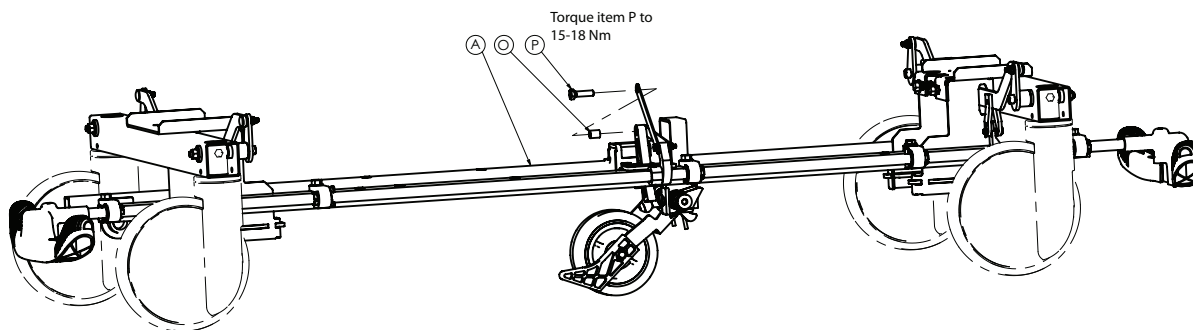

Figure 8 – Brake rod replacement
4. Use a 13 mm wrench, 13 mm socket wrench, and a 3/8" drive ratchet to remove and save the hex head screw (P), hex nut, and cam bearing (O) that secure the fifth wheel drive link assembly to the brake rod assembly (Figure 8).